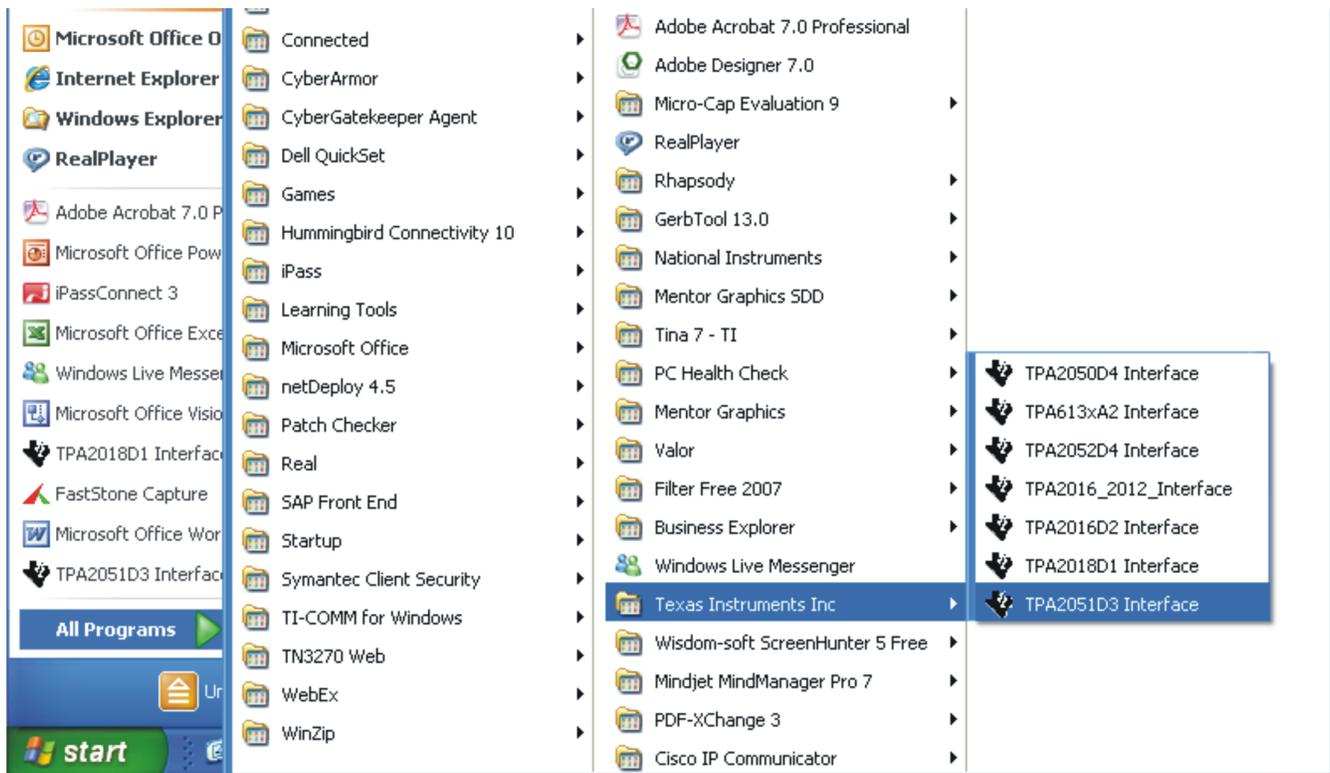

Figure 4. Starting the TPA2051D3 Interface
1. Start the TPA2051D3 Interface by clicking the *Start* menu and clicking the *All Programs* → *Texas Instruments Inc* → *TPA2051D3 Interface* cascading menus shown in Figure 4.